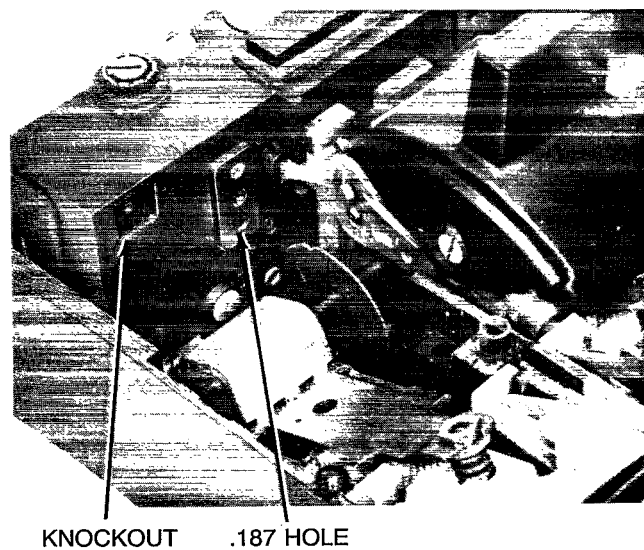

Figure 5
3. Ensure the circuit breaker has been deenergized and removed from the circuit. At the hole indicated in Figure 5, enlarge the existing hole to .187 diameter and .327 deep. Press the insert provided into the hole until it is flush or below the trip unit surface.
4. Being careful not to eject chips into the trip unit case, use a small screwdriver and gently pry out the knockout in the trip unit case as indicated in Figure 5. Remove any debris that may have entered the circuit breaker housing.